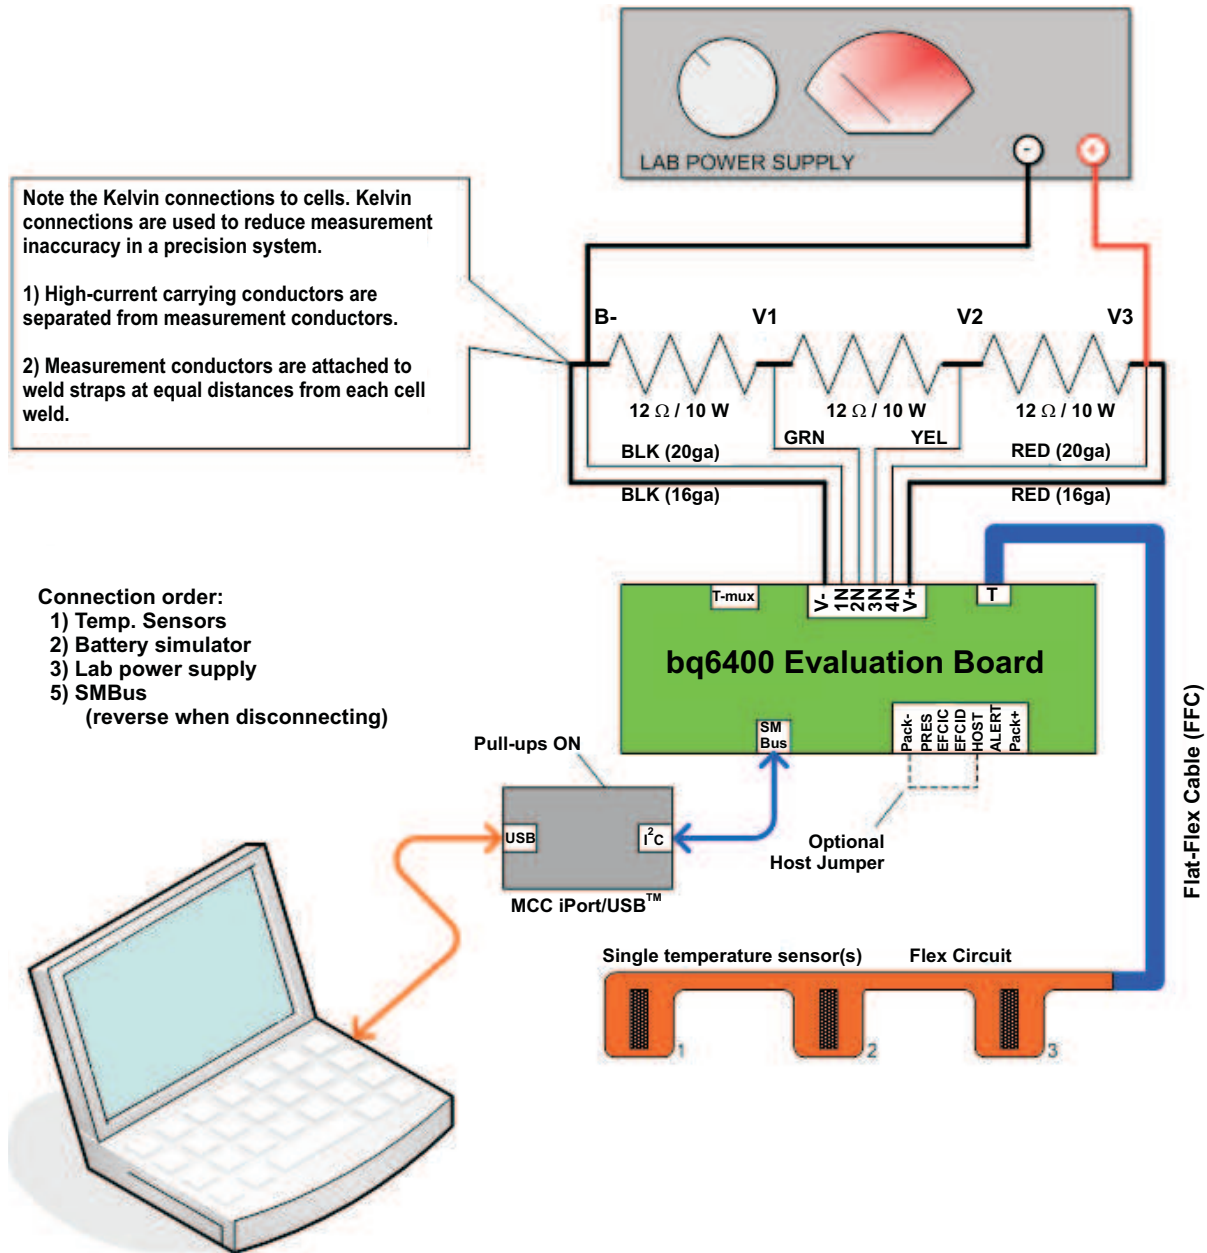

Figure 1. Voltage Calibration Connection Diagram
- Battery Simulator (see Figure 1) This is easily constructed from three 10- Ω , 10-W power resistors (4 required for 4 series cell design).
- Battery pack connector with power and SMBus cabling (see Figure 1).